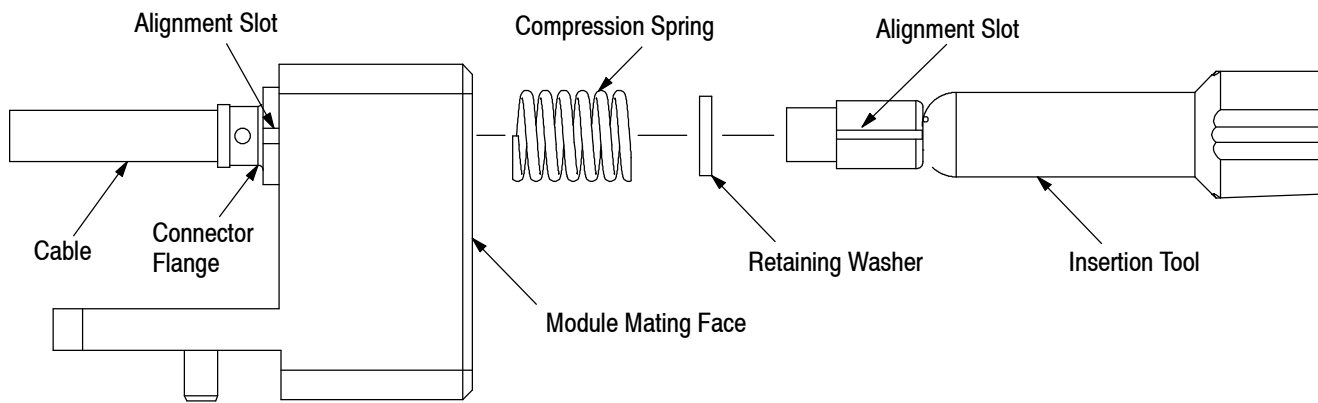

Figure 5
1. Insert soldered cable connector into module mounting hole from the flange side of the module bottoming the connector body flange on the module. See Figure 5.
4. Align the internal retaining washer flats with the external flats on the connector body using the alignment slots on the connector flange and on the insertion tool. See Figure 5.